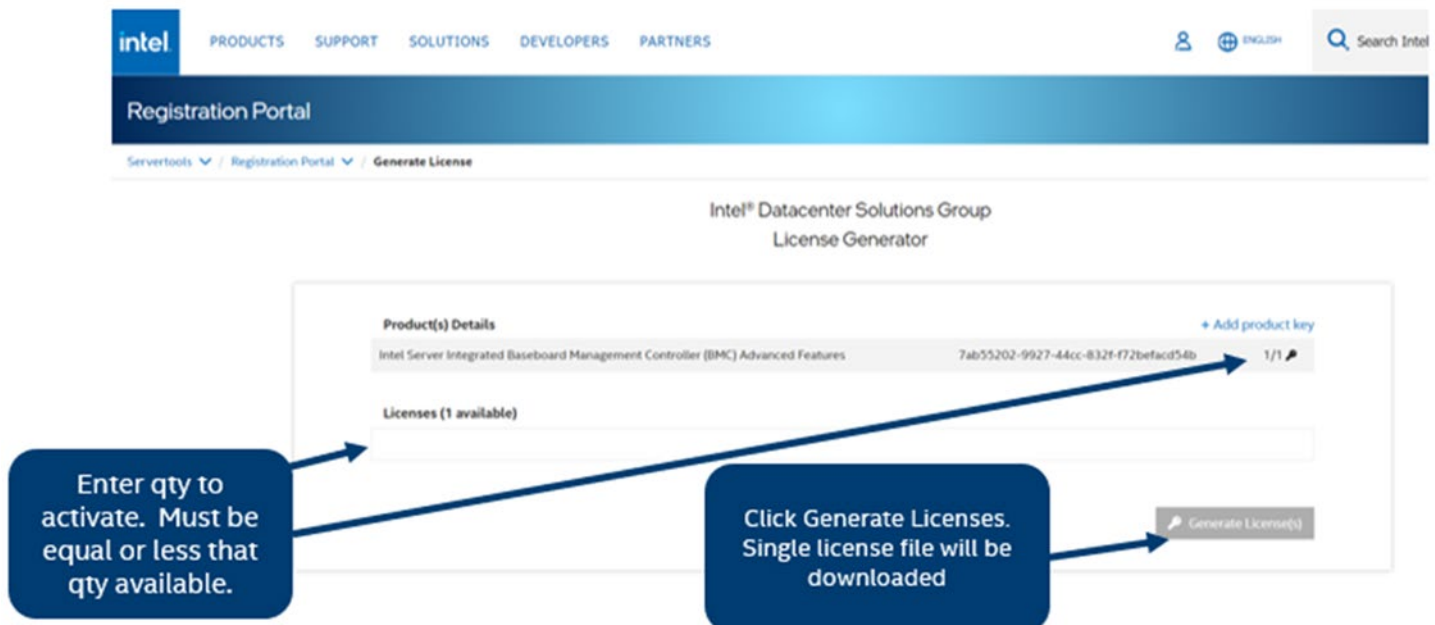

Figure 107. Activate Key for Advanced System Management (ASM) Key
- Enter the number of Advanced System Management (ASM) licenses needed. It must be equal or less that the quantity available displayed on the right corner of the screen. Click on the “Generate License(s)” bottom to download the single license file. (see Figure 107)